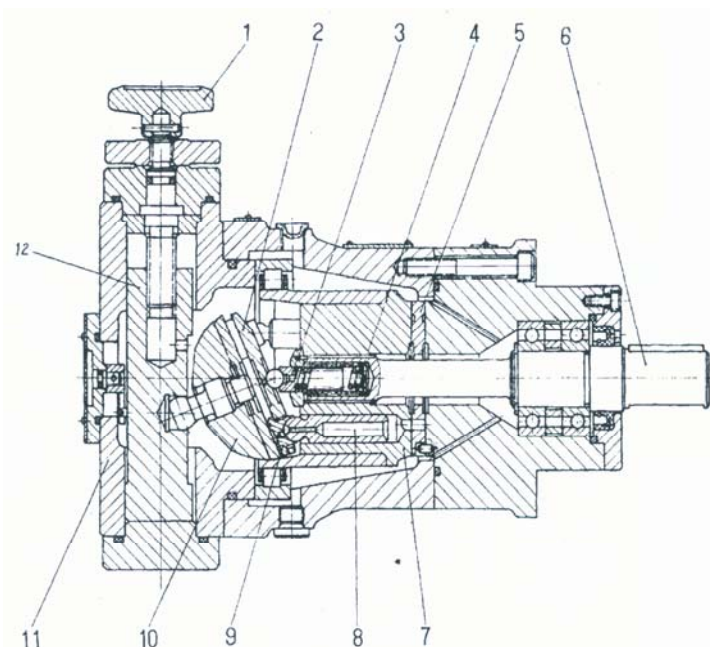

Figure 1 SCY14-1B (Manual Variable Displacement) Axial Piston Pump
4.1. SCY14-1B Type (Manual Variable Displacement) Axial Piston Pump (Figure 1)